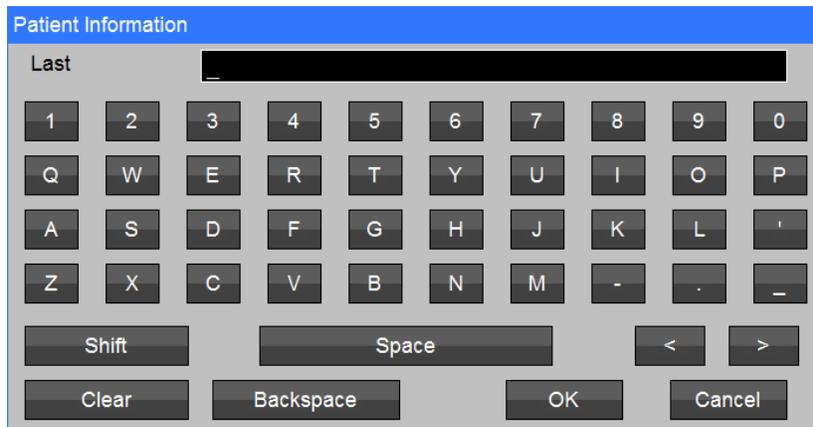

Figure 42: Last (name) keyboard
- 4) Use the keyboard (refer to Figure 42) to enter patient specific information.